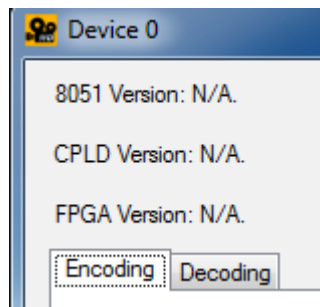

**Figure 2-3: Encoding Settings**
**Step 3:** Click the Device # button. The Encoding window appears (**Figure 2-3**). Choose the video input format which depends on the video device. **The video format selected here must be same with the HDMI input video format.** The available options include: